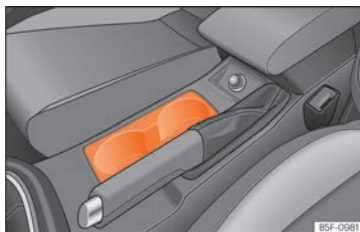

Fig. 167 Centre console: drinks holder.
- Place drinks in the holder »» Fig. 167. Placement of two drinks is possible. There is also the possibility of placing larger plastic bottles in the trims of the doors.